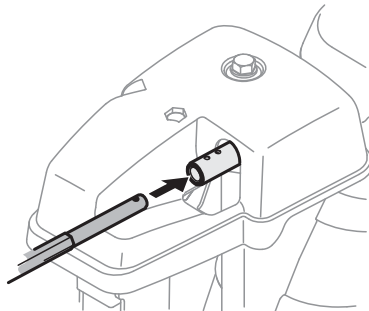

Figure 2-26
2. Insert chute control rod into chute control head. Push rod as far into chute control head as possible, keeping holes in rod pointing upward. See Figure 2-26.